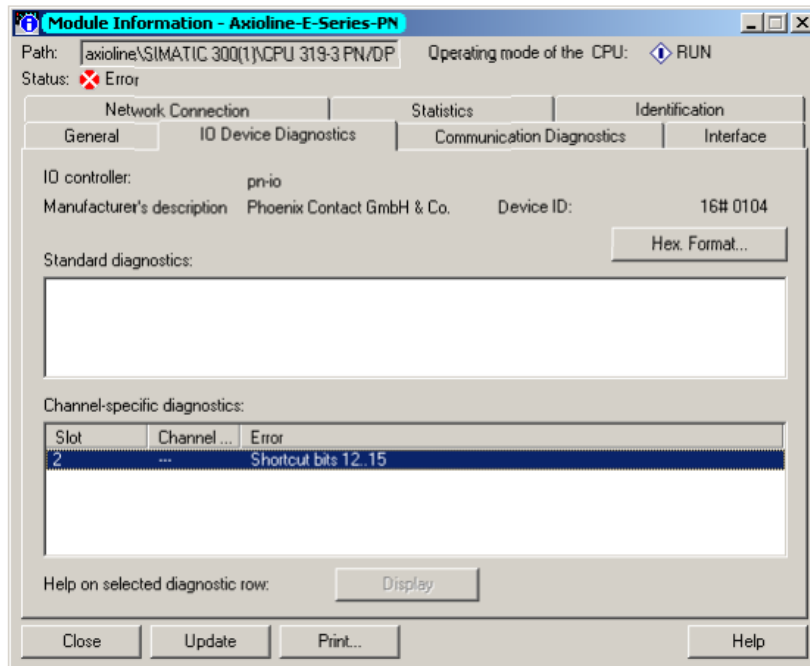

Figure 2-14 Dialog box: Module status; IO Device Diagnostics tab
- In the “Module status” dialog box, select the “IO Device Diagnostics” tab to view the detailed text, see Figure 2-14..